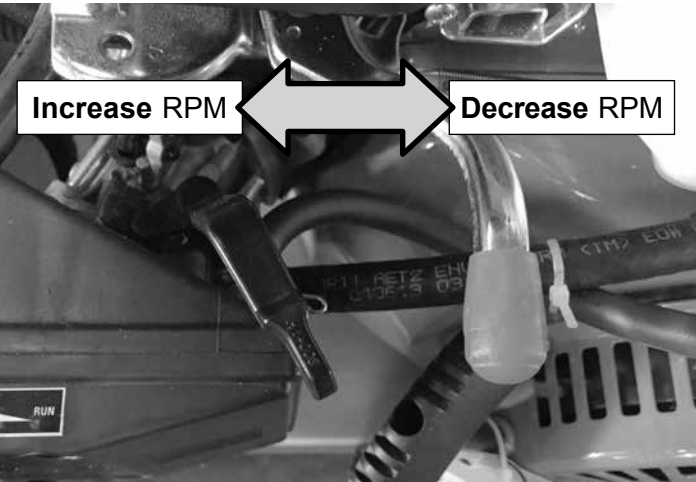

FIGURE 3
- Adjust lever to the left to increase RPM. **During trash pump use the engine should be ran at maximum RPM.** See figure 3.
- Slowly decrease the throttle speed and allow the engine to idle briefly (30 seconds) prior to stopping the engine. See figure 3.